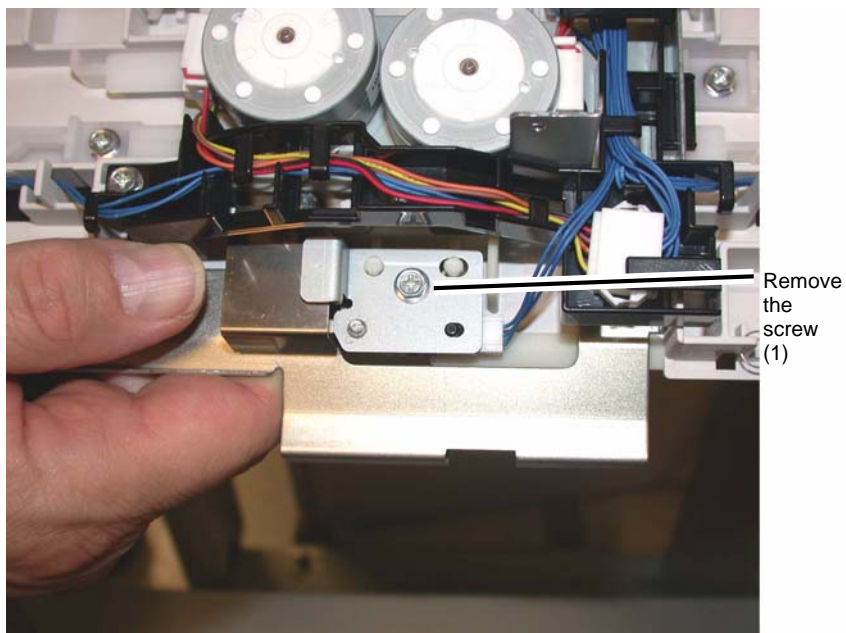

Figure 1 Removing the Bracket
4. Remove the screw (1) that secures the bracket (PL 23.12) (Figure 1).